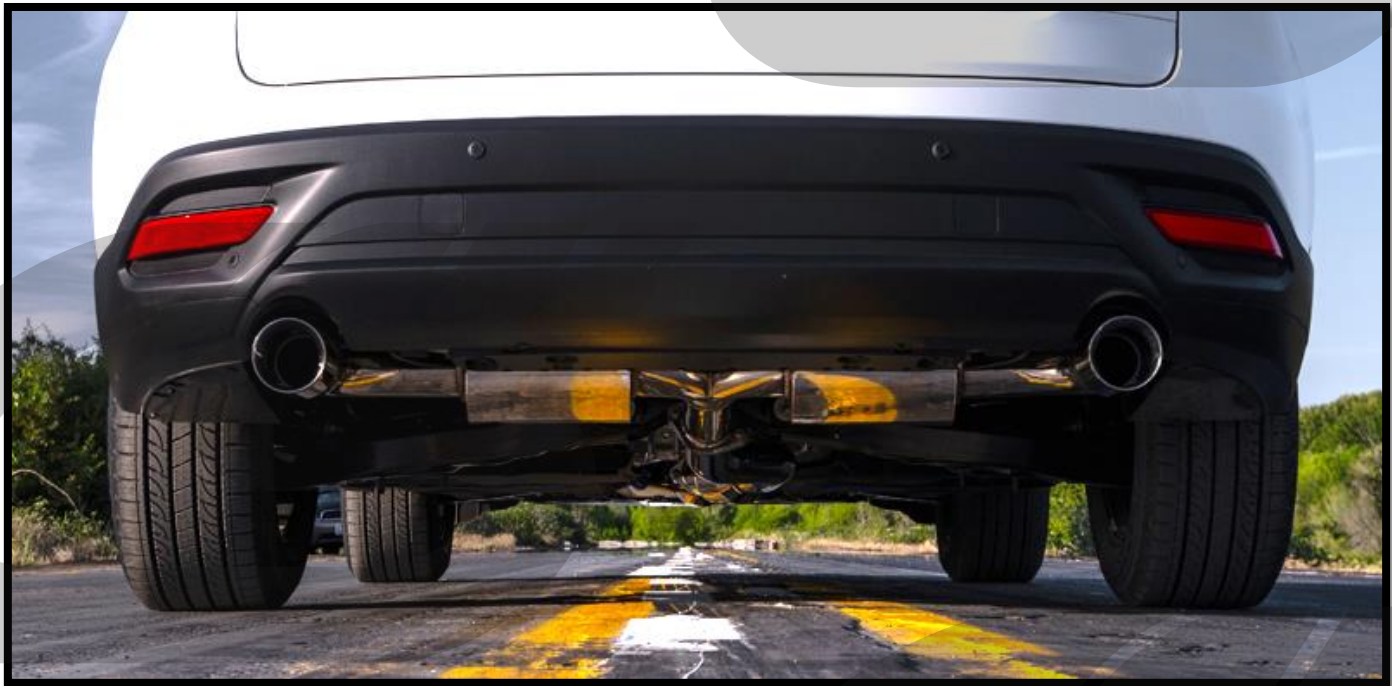

Figure 8c
- a) **Align the exhaust tips and hangers so the exhaust is straight and centered.** Figure 8c shows how the exhaust tips should look when properly aligned.
- d) **Double check tip position for clearance.** Figure 8c shows final installed location.